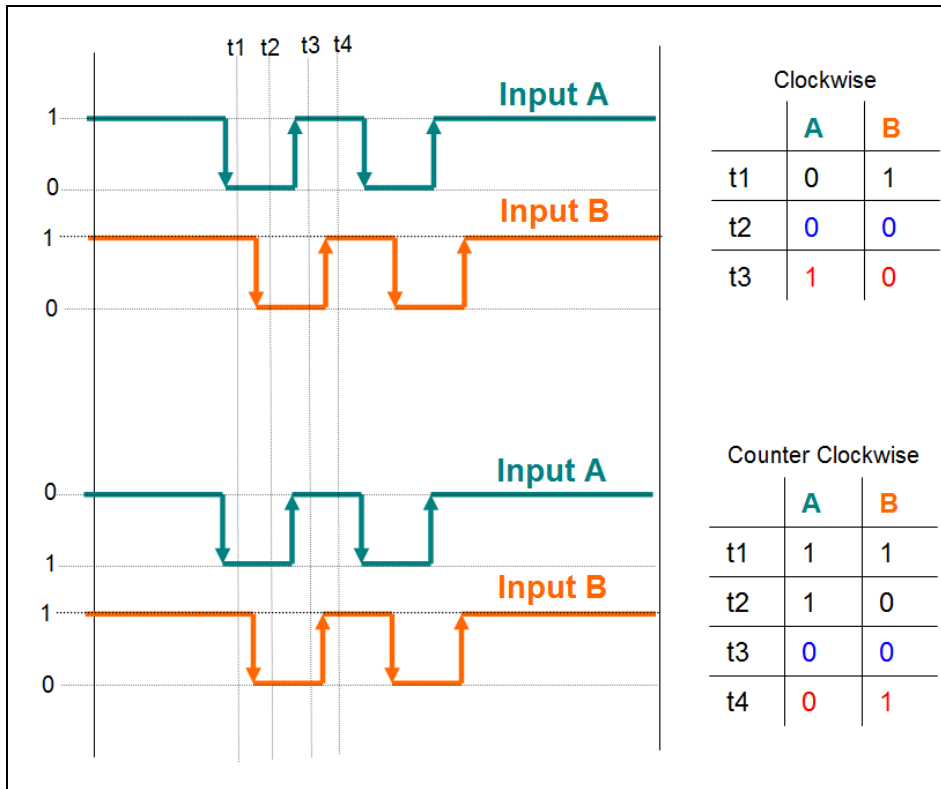

Figure 31: Polarity change of input signal "A" inverts the counting direction
- By changing the polarity of signal "A" for the quadrant counting mode (Figure 31) results in a change of counting direction.